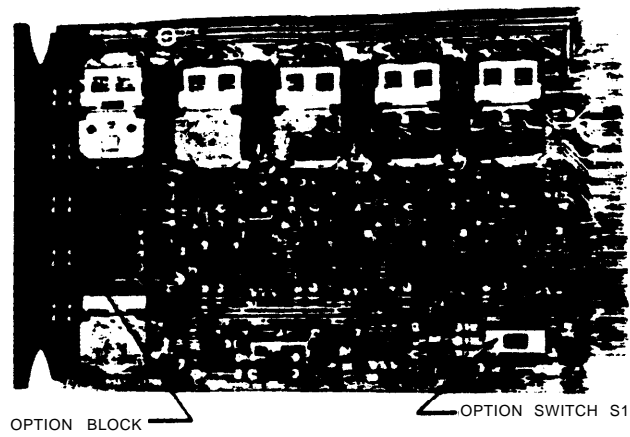

Fig. 33—Master Zone Card—Location of Option Switches
5.28 Master Zone Card: Refer to Table K and Fig. 33. Strap the card to select the zones which will have talk-back capability.